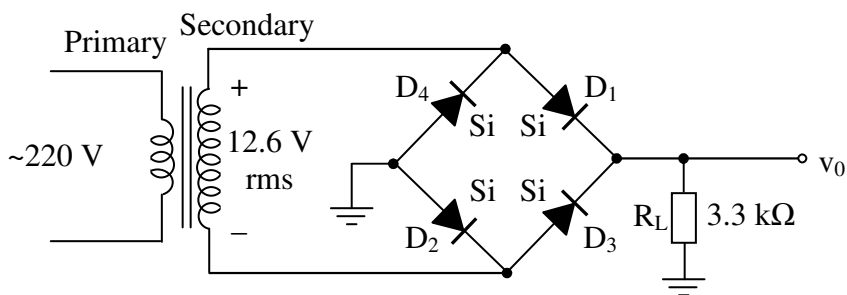

Fig. 3.21 Full-wave bridge rectifier circuit
1. Construct the full-wave bridge rectifier of Fig. 3.21. Be sure that the diodes are inserted correctly and that the grounding is as shown. If unsure, ask your instructor to check your setup. Record the measured value of the resistor R_L . $R_{Lmeas} = \underline{\hspace{2cm}}$ k Ω .